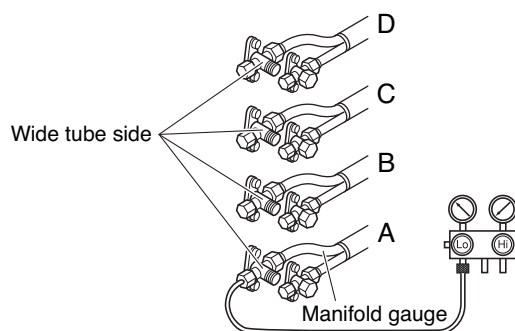

Fig. 23
- (2) Connect the manifold gauge to the charging port at the valve on the wide tube side of tube D. Purge the air from the charging hose. (Refer to Fig. 23.)
- (3) Perform cooling operation or forced cooling operation.
When the pressure at the low-pressure side is 0.15 – 0.2 MPa (0.5 – 1 kg/cm²G), fully close the spindles at the valves on the wide tube side of tubes A, B, C and D, and immediately stop operation. (Refer to Fig. 23.)